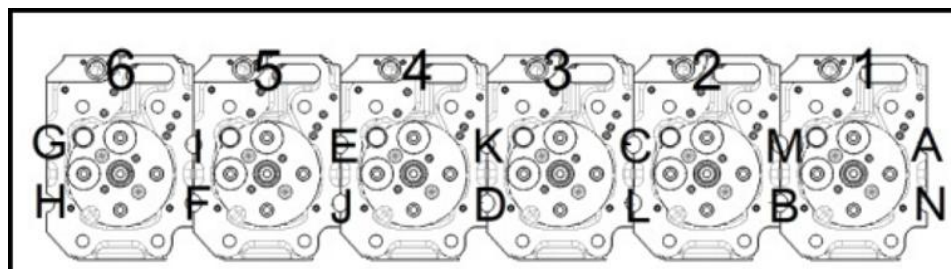

Figure 66. Secondary Bolt Torquing Order
1. Tighten the secondary bolts in order A through N (Figure 66) to 59 lb-ft.
9. Reinstall the coolant pipe (Figure 66, Item 1) onto the cylinder head and torque down the two bolts (Figure 66, Item 2).